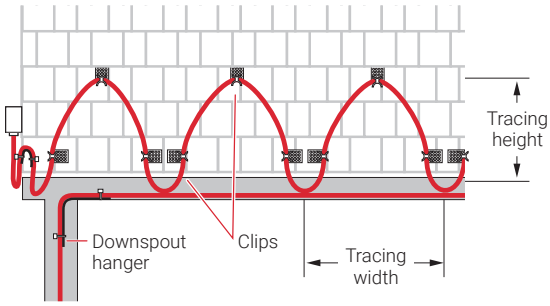
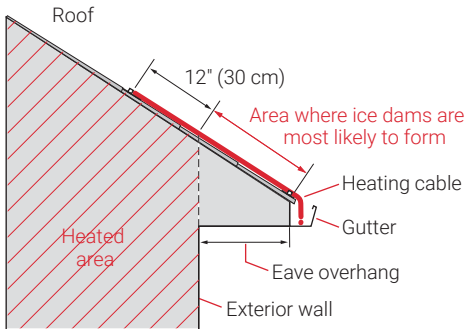

Figure 3: Front view of roof with IceStop system
Figure 4: Side view of roof with IceStop system
Figure 3 and Figure 4 following illustrate several important terms:
- Run heating cable up the roof until it is 12 inches (30 cm) past the exterior wall into the heated area (see Figure 4).
- Run the heating cable up the seam until it is 12 inches (30 cm) past the exterior wall and into a heated area, Figure 4 on page 18.